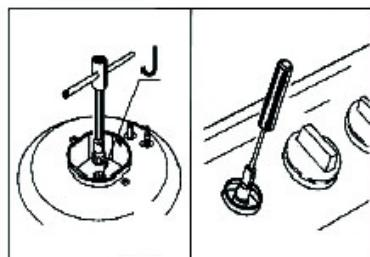

Fig.12
- ☞ **Regulations require that the appliance is earthed. The manufacturer declines all liability resulting from failure to observe this regulation. (fig.12)**